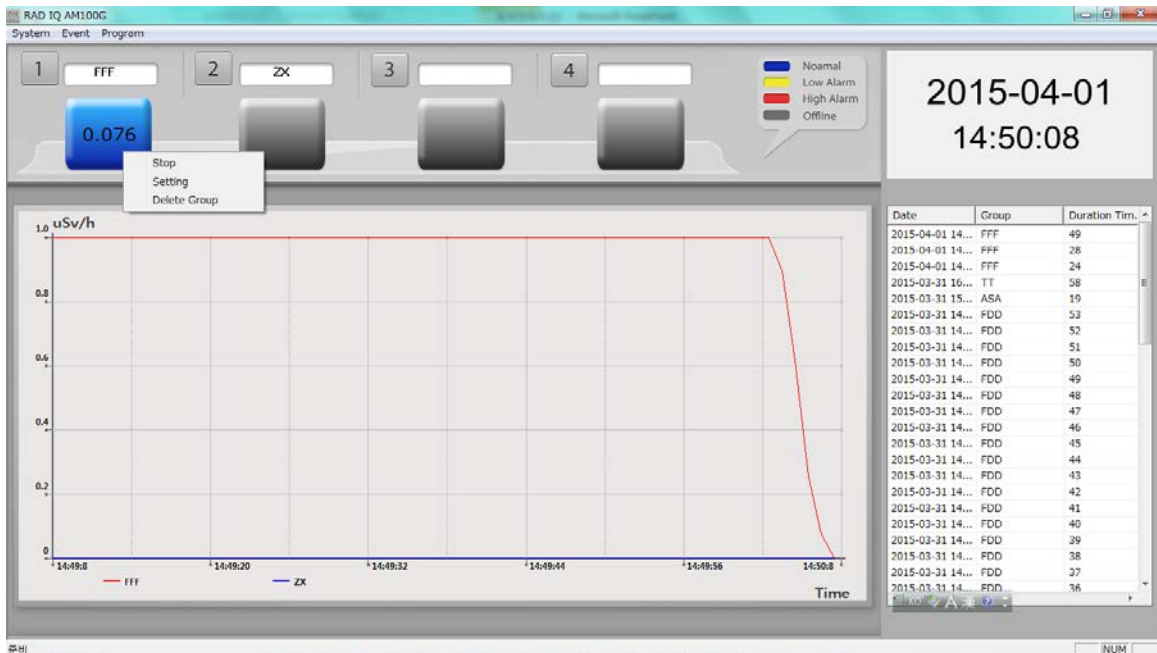

Figure 22. Real time activity display
1. Click 'Right-Mouse-Button' on the detector status icon. Pop-up menu is appeared as shown in figure 22.